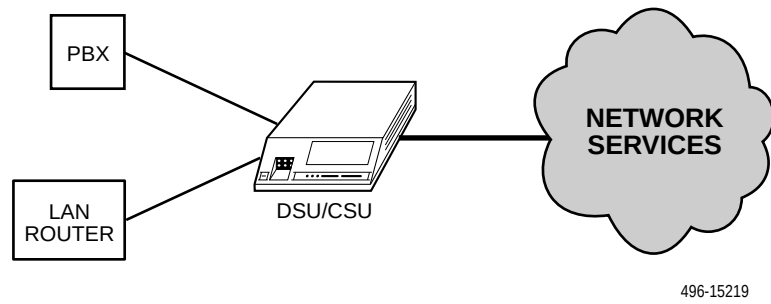

Figure 2-2. Shared Access Application Example
- Shared access to network-based services (Figure 2-2, Shared Access Application Example).